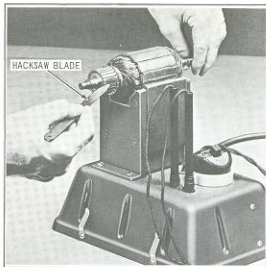

Figure 5E-5. Testing Armature for Open Circuit
**TEST FOR GROUND.** If growler with test leads is available, test by touching armature core with one test lead and commutator segments, individually, with the other. If this means of testing is not available, test with battery, ammeter and leads as used for testing field coils. Contact commutator segments with one test point and armature core with the other. If circuit is completed, armature is grounded. See Fig. 5E-3.